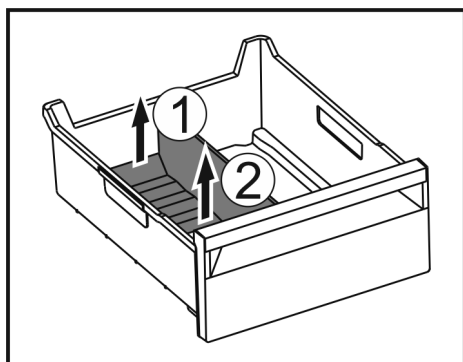

Fig. 102
- ▶ Lift the rear part of the ice compartment divider. Fig. 102 (1)
- ▶ Remove the ice compartment divider upwards. Fig. 102 (2)